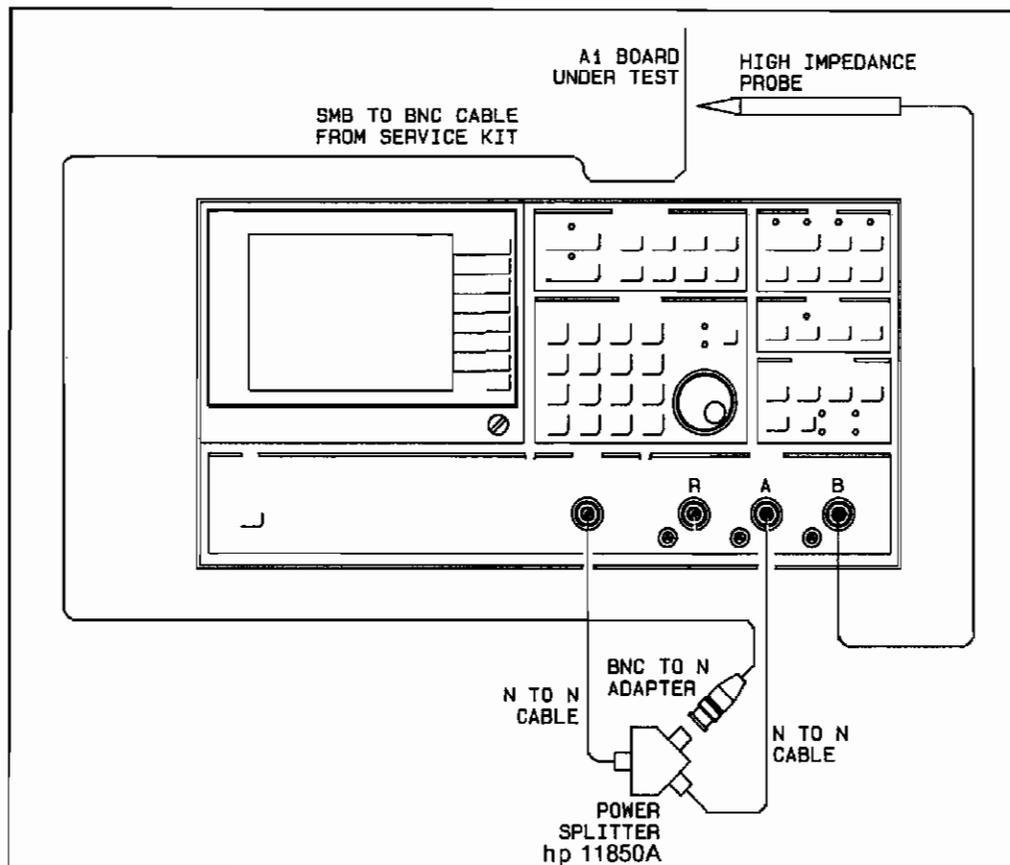

Figure 8-3. Dynamic Accuracy Troubleshooting Set Up
- b. Remove power from the 3577A and place the suspect receiver board on the 03577-66542 extender board. Connect the equipment as shown in Figure 8-3. Use the SMB to BNC cable to connect the suspect receiver board to the Power Splitter. The set up shown is for a faulty R channel board. Adapt the set up as necessary for an A or B circuit board fault.
- c. Set the 3577A controls by pressing the hardkey on the left and selecting the softkey, or entering the data listed on the right. The input settings below are for an R channel fault with the test set up seen in Figure 8-3. Adapt the control settings for your test set up as required by noting which channel is faulty, which is fed by the bridge and which has the 1:1 probe.